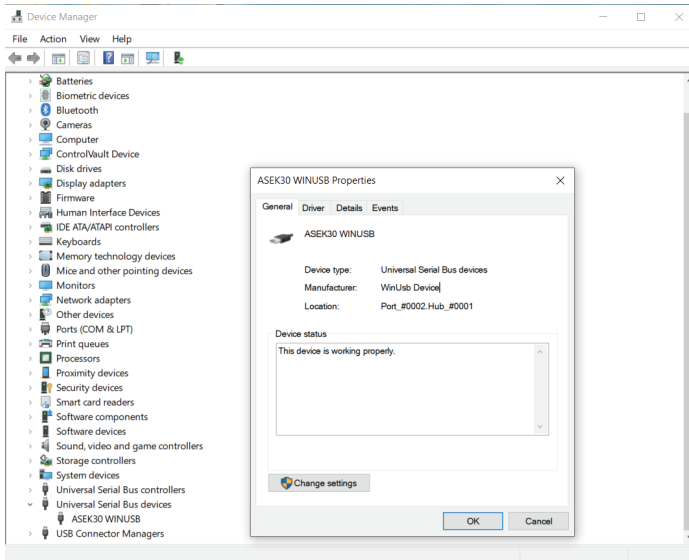

Figure 9: Verify Device Communication with PC
4. Verify that the device status dialog box indicates that the device is working properly (see Figure 9).